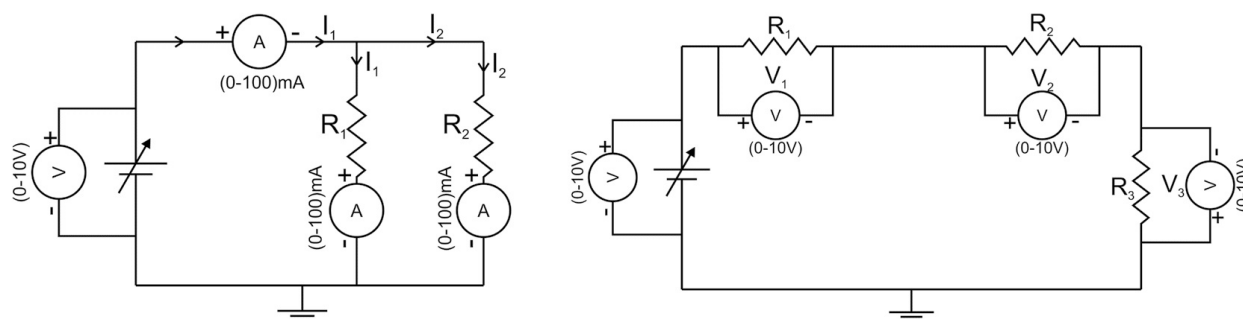

Fig P9.1 Fig P9.2
1. Make connection as per circuit diagram in Fig P9.1. 2. Note the LC and range of Ammeter and voltmeter. 3. Switch on power supply and close key.